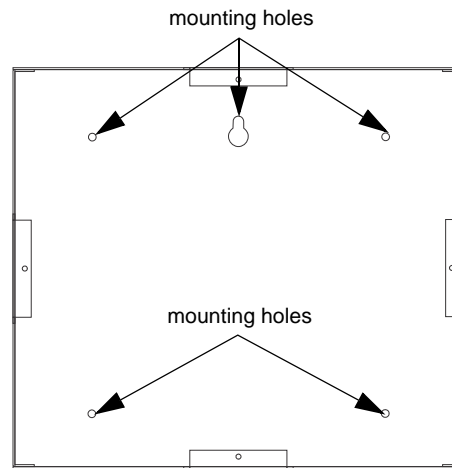

Figure 4.13 RA-100 Backbox Mounting
2. Mark and pre-drill hole in the wall for the center top keyhole mounting bolt. Refer to Figure 4.13 for mounting hole locations.